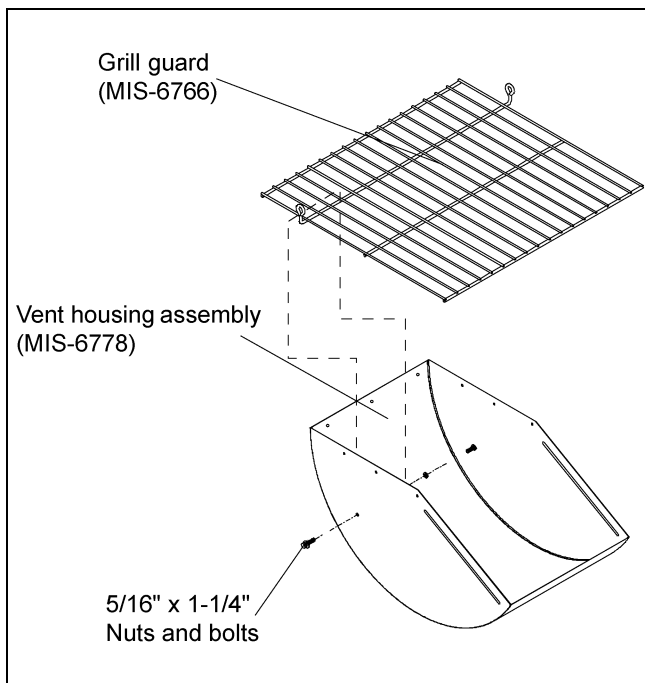
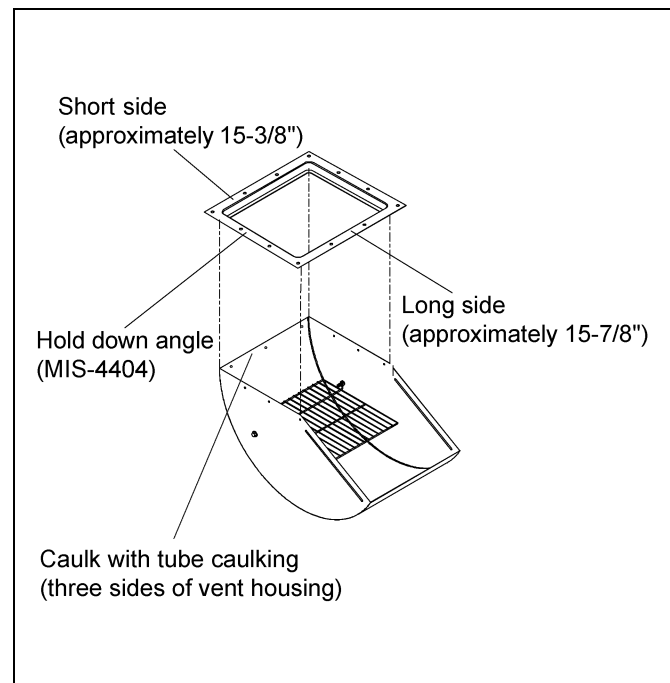
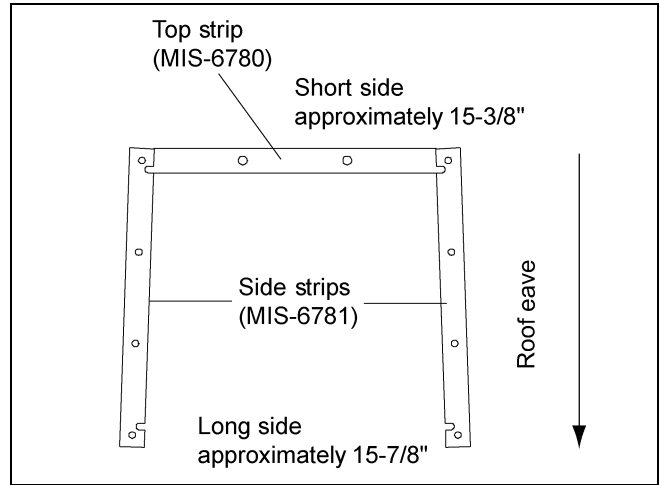
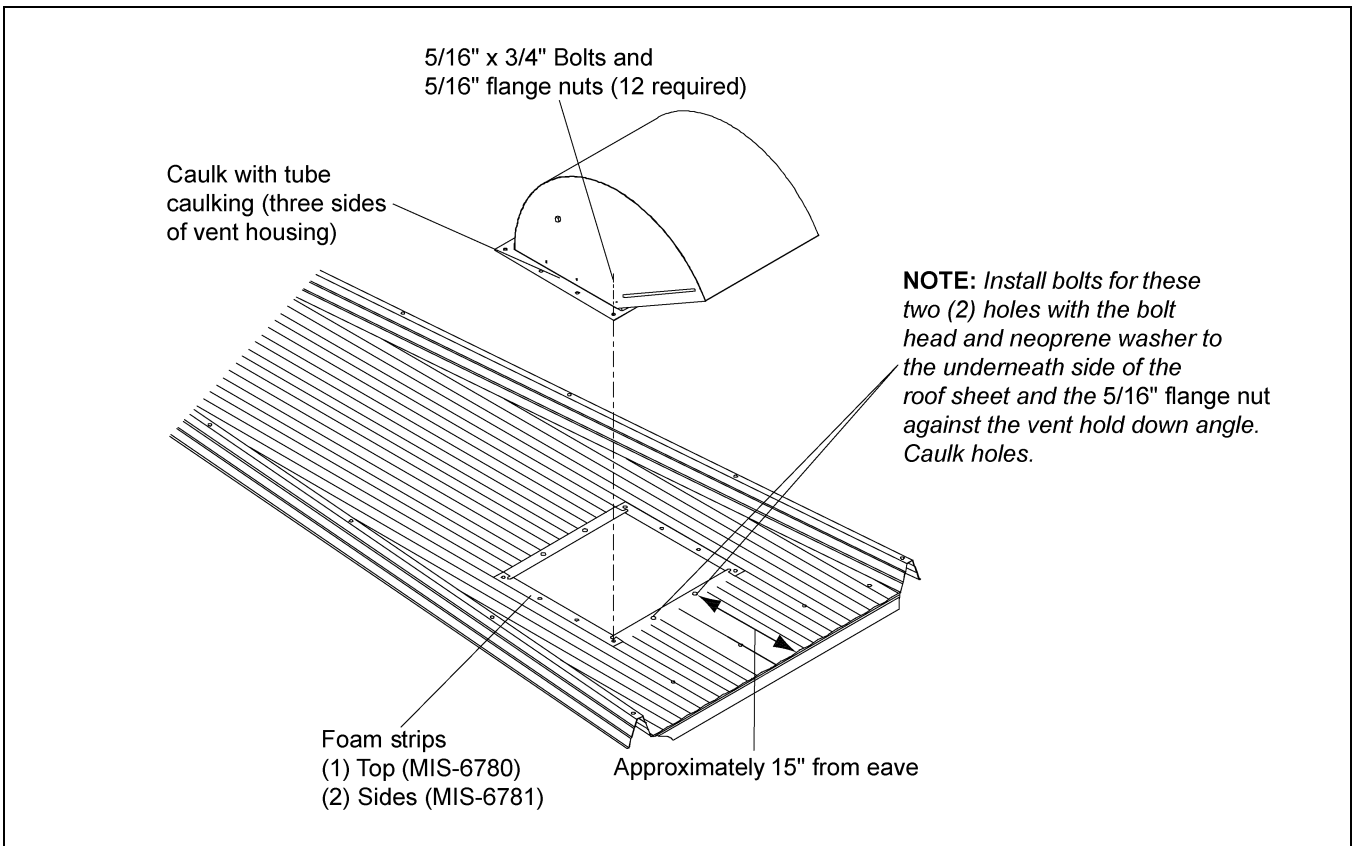

Figure 1
Figure 2
Figure 4
Figure 5
The following instructions are for assembling and installing the wire grill guard roof vent. Before beginning assembly, check the packing list to ensure all components have been received. The unit is easiest assembled in the **upside down position** as shown in Figure 1. Locate the roof vent as shown in Figure 5.
1. Turn one (1) roof vent housing (MIS-6778) upside down. (See Figure 1.)
2. Insert 5/16" x 1-1/4" bin bolt with neoprene washer through the hole in the side of the roof vent. Place jamb nut onto the bolt and tighten. (See Figure 1.)
5. Apply a bead of tube caulking around the three (3) housing sides of the roof vent where it meets the hold down angle.
6. Place hold down angle (MIS-4404) on the assembled roof vent. The wide end of the hold down angle must face the vent discharge. Once aligned, screw nine (9) #10 self drilling (S-280) screws through the roof housing and into the hold down angle. (See Figure 2.)
7. If the roof sheet does not have a prepunched hole for the roof vent, a hole must be cut. Cut the hole to match the roof vent. The inside edge of the hole should be approximately 15" from the eave. (See Figure 5.)
8. Place the three (3) foam strips on roof sheet, as shown in Figure 4. Position roof vent over foam strips and bolt down using 5/16" x 3/4" bin bolts and nuts. (NOTE: See Figure 5 for lower two (2) bolts of vent).